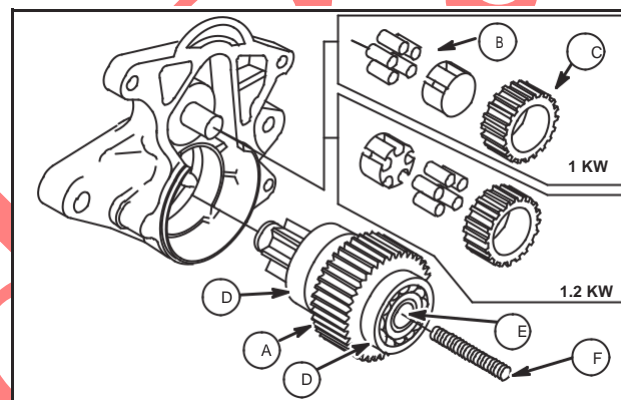

Fig. 57 – Assembling Pinion And Clutch
1. Lubricate the following components with silicone grease before assembly, Fig. 57.